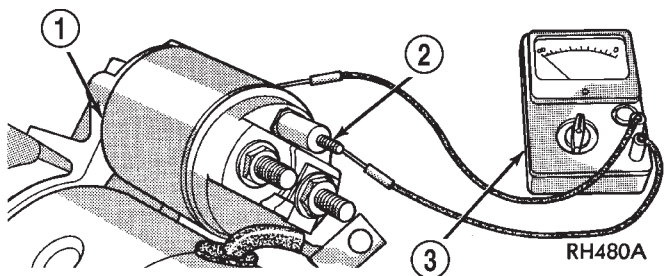

Fig. 12 Continuity Test Between Solenoid Terminal and Solenoid Case - Typical
(4) Check for continuity between the solenoid terminal and the solenoid case (Fig. 12). There should be continuity. If not OK, replace the faulty starter motor.